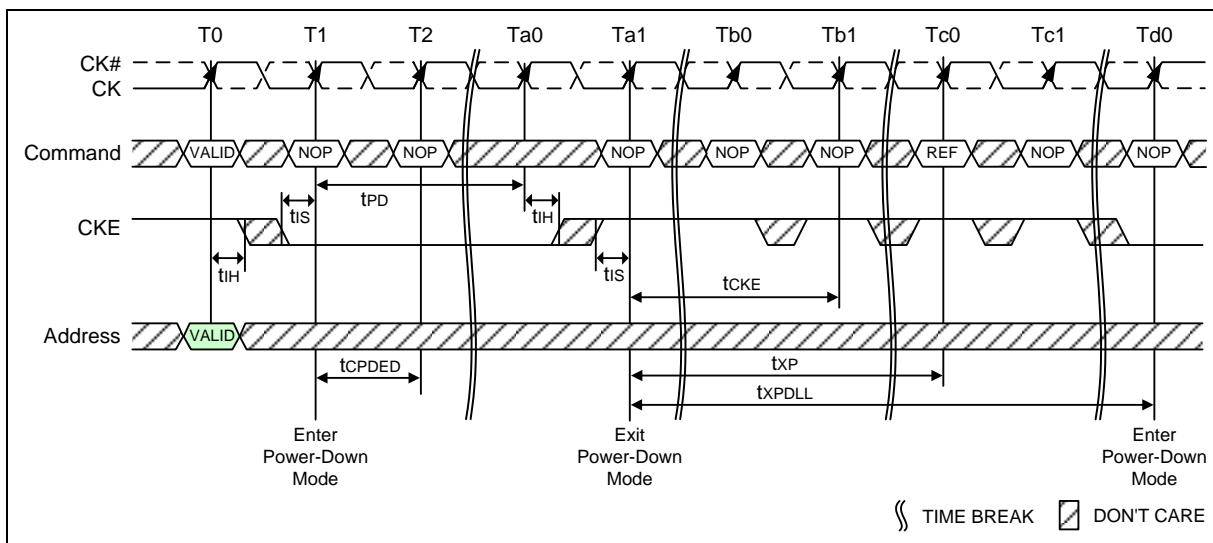

Figure 70 – Power-Down Entry/Exit Clarifications - Case 2
2)  $t_{XP DLL}$  must be satisfied (referenced to the registration of PD Exit) before the next power-down can be entered. A detailed example of Case 2 is shown in Figure 70.